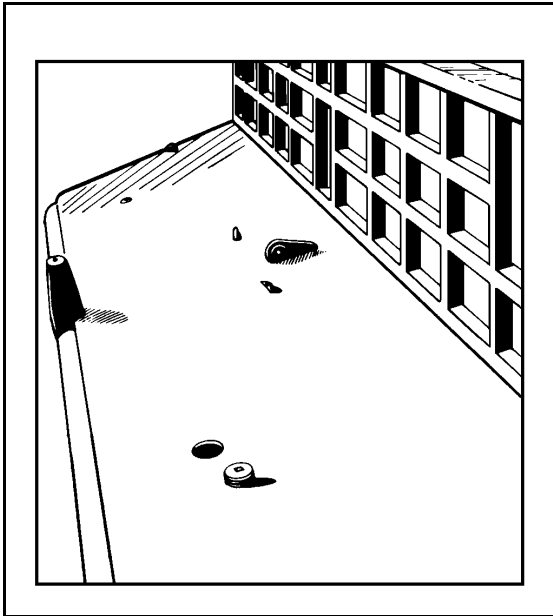

Figure 17-4. Access Plug
- **Step 2.** The deck access plug (Figure 17-4) is removed from over either the port or starboard rudder post.